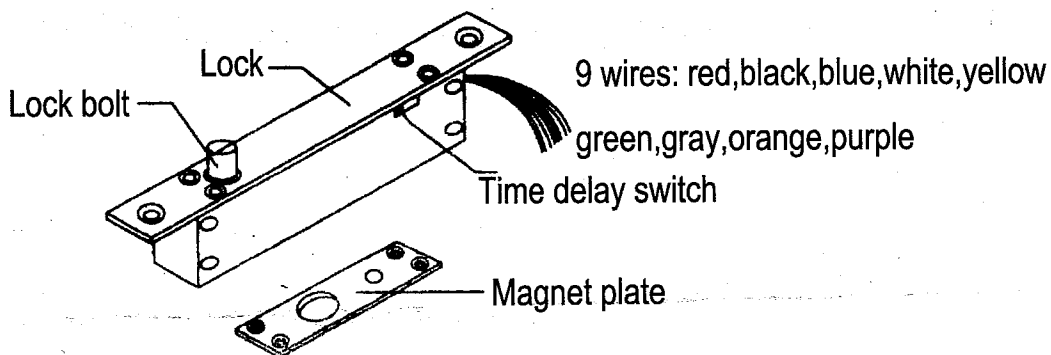

Figure 1
2.3 There are red, black, blue, white, yellow, green, gray, orange, purple 9wires (figure1). 12VDC wiring (figure 2-B); 24VDC wiring(figure 2-A). blue, white, yellow are lock bolt sensor output wires, blue (NO), white(COM), yellow(NC) (figure 3-A). gray, orange, green are door sensor output wires, green(NO), gray(COM), orange (NC)(figure 3-B).